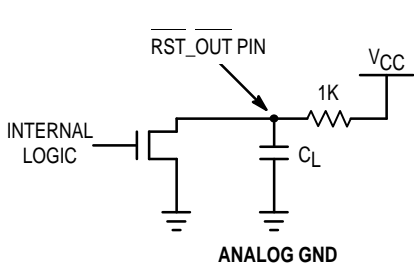

Figure 4. RST_OUT Test Circuit
- The $\overline{RST_OUT}$ pin is an open drain N-Channel output. Therefore an external pull-up resistor must be provided to pull up the $\overline{RST_OUT}$ pin when it goes into the high impedance state (after the MC88920 is phase-locked to the reference input with RST_IN held high or 1024 'Q' cycles after the RST_IN pin goes high when the part is locked). In the t_{PLZ} and t_{PZL} specifications, a 1K Ω resistor is used as a pull-up as shown in Figure 4.